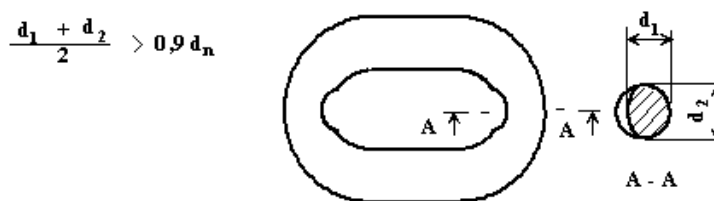

Figure 10: Wear between links
- Wear - wear caused by contact with other objects usually occurs on the outer flat surface of the links, where it is clearly visible and can be measured easily. The wear between adjacent links remains hidden. The chain must be loosened and the adjacent links rotated in such a way as to expose the inner surface of each link. Permissible wear between links is up to 90% of the link thickness (d_n), which is expressed as a mean value from two perpendicular measurements of diameters (d_1) and (d_2) - see Figure 10.